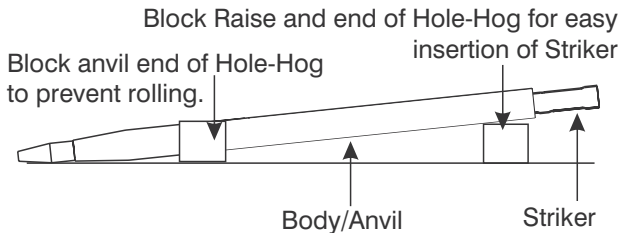

Figure 9-47. Block the Body/Anvil in place.
3. Refer to Section 3.1 and verify that the serial number of the Striker (2) is correct.
4. Block the Body/Anvil so it will not roll side to side. Raise and block the open-end of the Body/Anvil so the Striker (4) can be easily inserted. Refer to Figure 9-47.